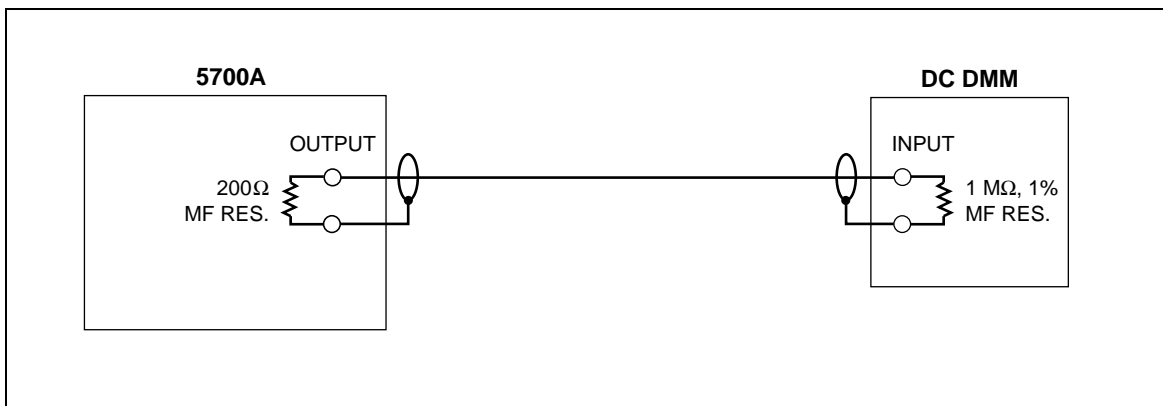

Figure 3A-21. 2 mA Reference DC Current Test Setup
1. Connect the equipment as shown in Figure 3A-21.